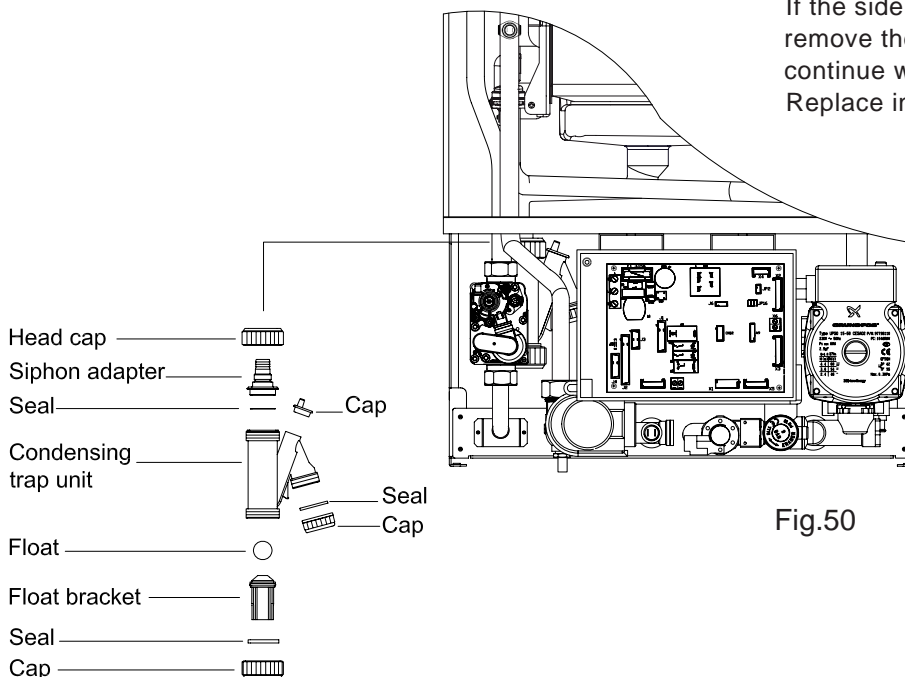

Fig.50
**8.22 TO CLEAN AND REMOVE/REPLACE CONDENSING TRAP (Fig. 50)**